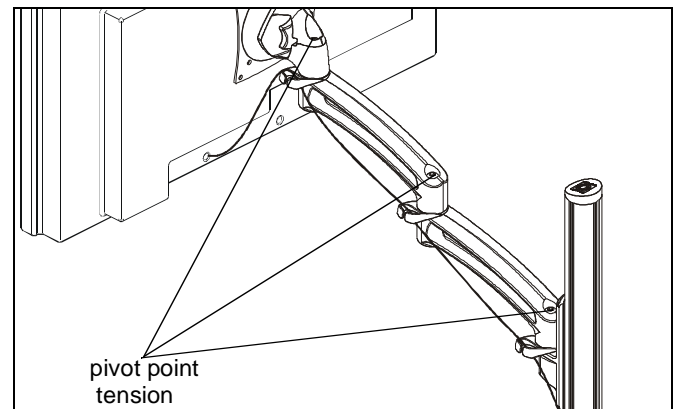

Figure 26
1. Adjust pivot position as desired. (See Figure 26)
2. Adjust pivot point tension screws to change pivot adjustment tension. (See Figure 26)